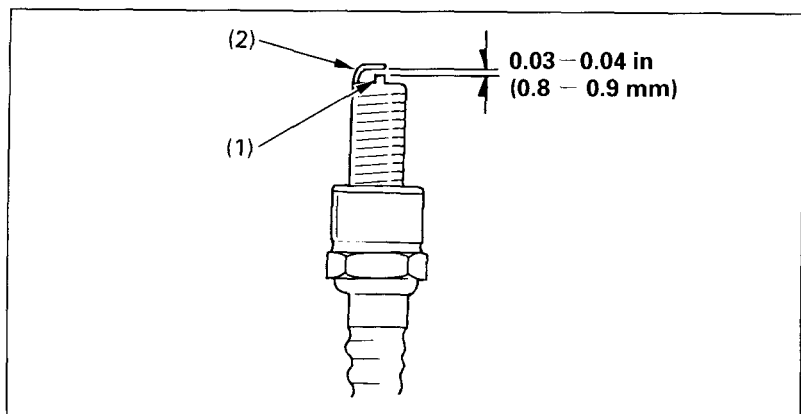

Fig. 4-16      (1) Center electrode      (2) Side electrode
4. Visually inspect the spark plug electrodes for wear. The center electrode (Fig. 4-16) should have a flat tip and sharp edges, and the side electrode (2) should not be eroded. If the electrodes and insulator tip appear unusually fouled or burned, we suggest that you contact your authorized Honda dealer.